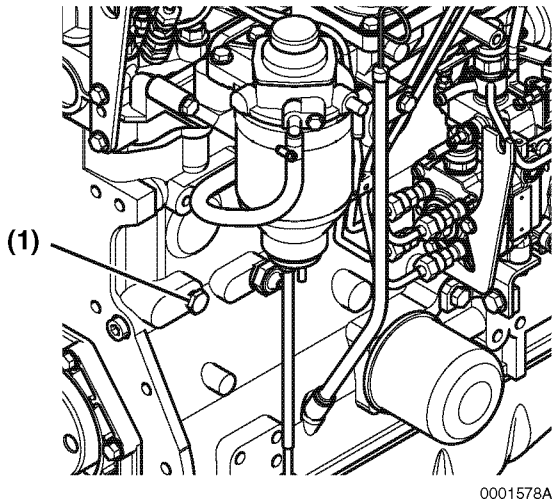

Figure 5-17
(Figure 5-17, (1)) from the engine block.